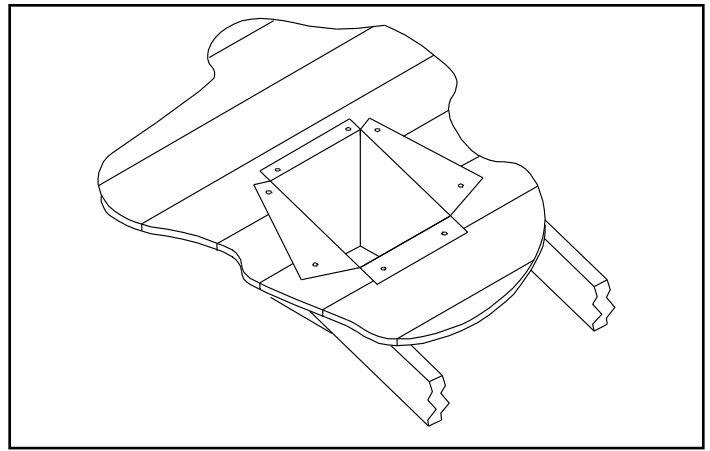

Figure 7.10
- Use tin snips to cut the support box from the top corners down to the roof line and fold the resulting flaps to the roof. See Figure 7.10.